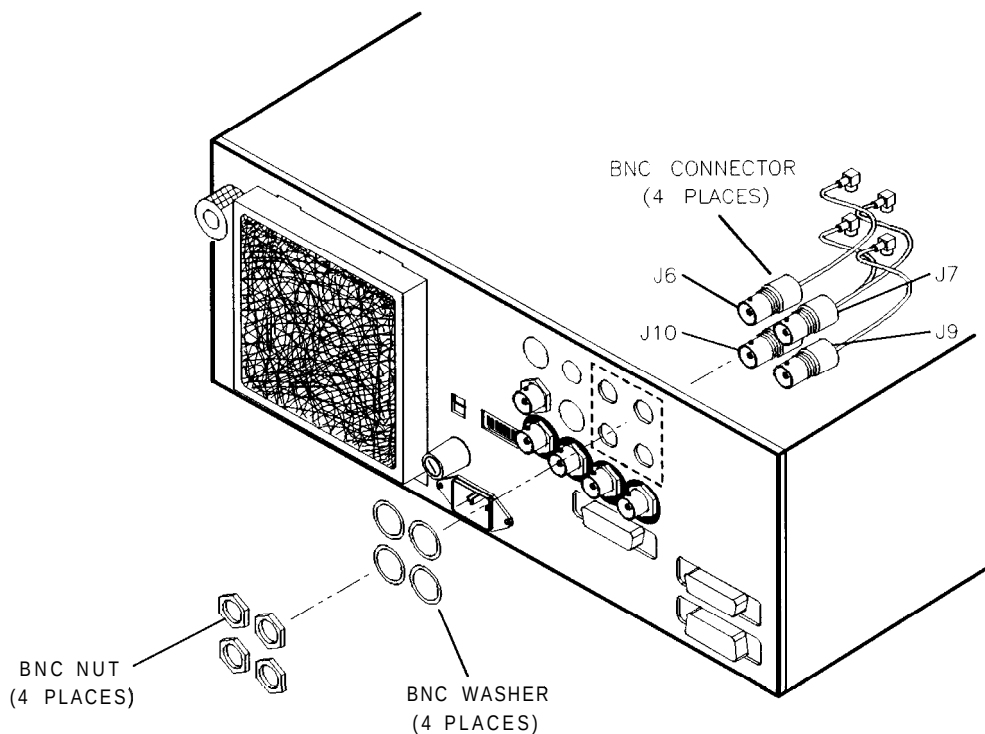

Figure 7-9. J6, J7, J9, and J10 Rear Panel BNC Connector Locations
1. Remove the nuts and washers on the four BNC connectors, 10 MHz REF INPUT, 10 MHz REF OUTPUT, VOLTS/GHz, and TRIGGER OUTPUT. Refer to Figure 7-9.